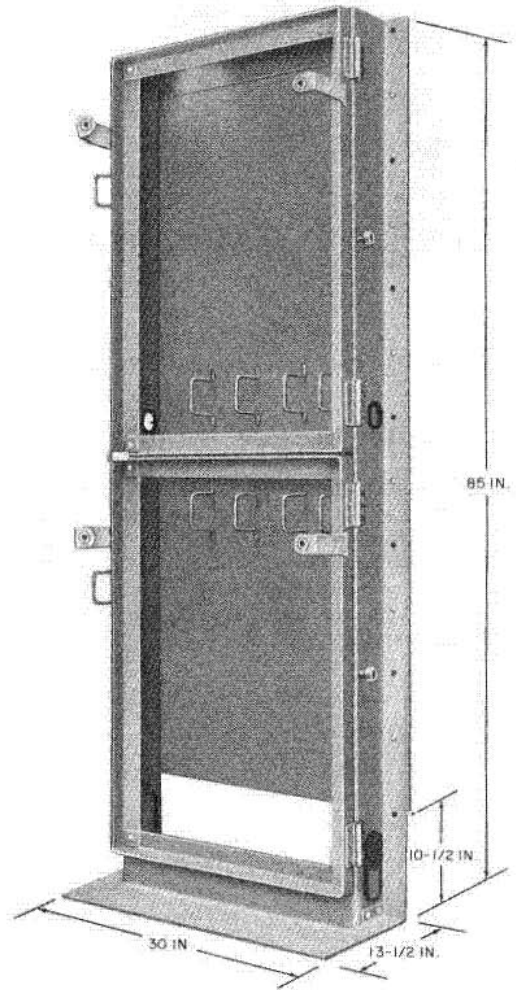
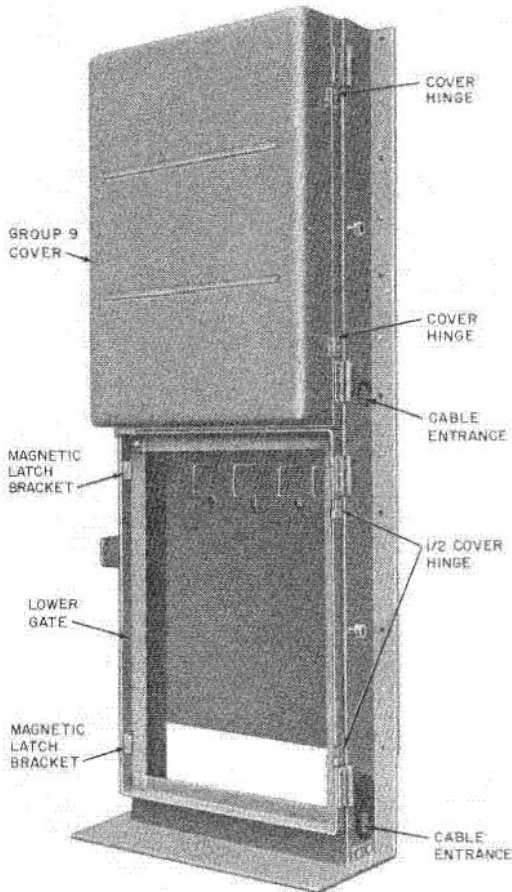

Fig. 33—Wall Relay Rack per ED-69463-50, Group 1 (MD)
Fig. 34—Wall Relay Rack per ED-69463-50, Group 8, With One Group 9 Cover on Upper Gate
7.01 The wall relay rack per ED-69463-50, Group 1 (MD) (Fig. 33) and ED-69463-50, Group 8 (Fig. 34) are steel relay racks designed for centralized installations of key telephone equipment. They consist of two gates hinged on the right side and mounted on a steel frame. Each gate may be